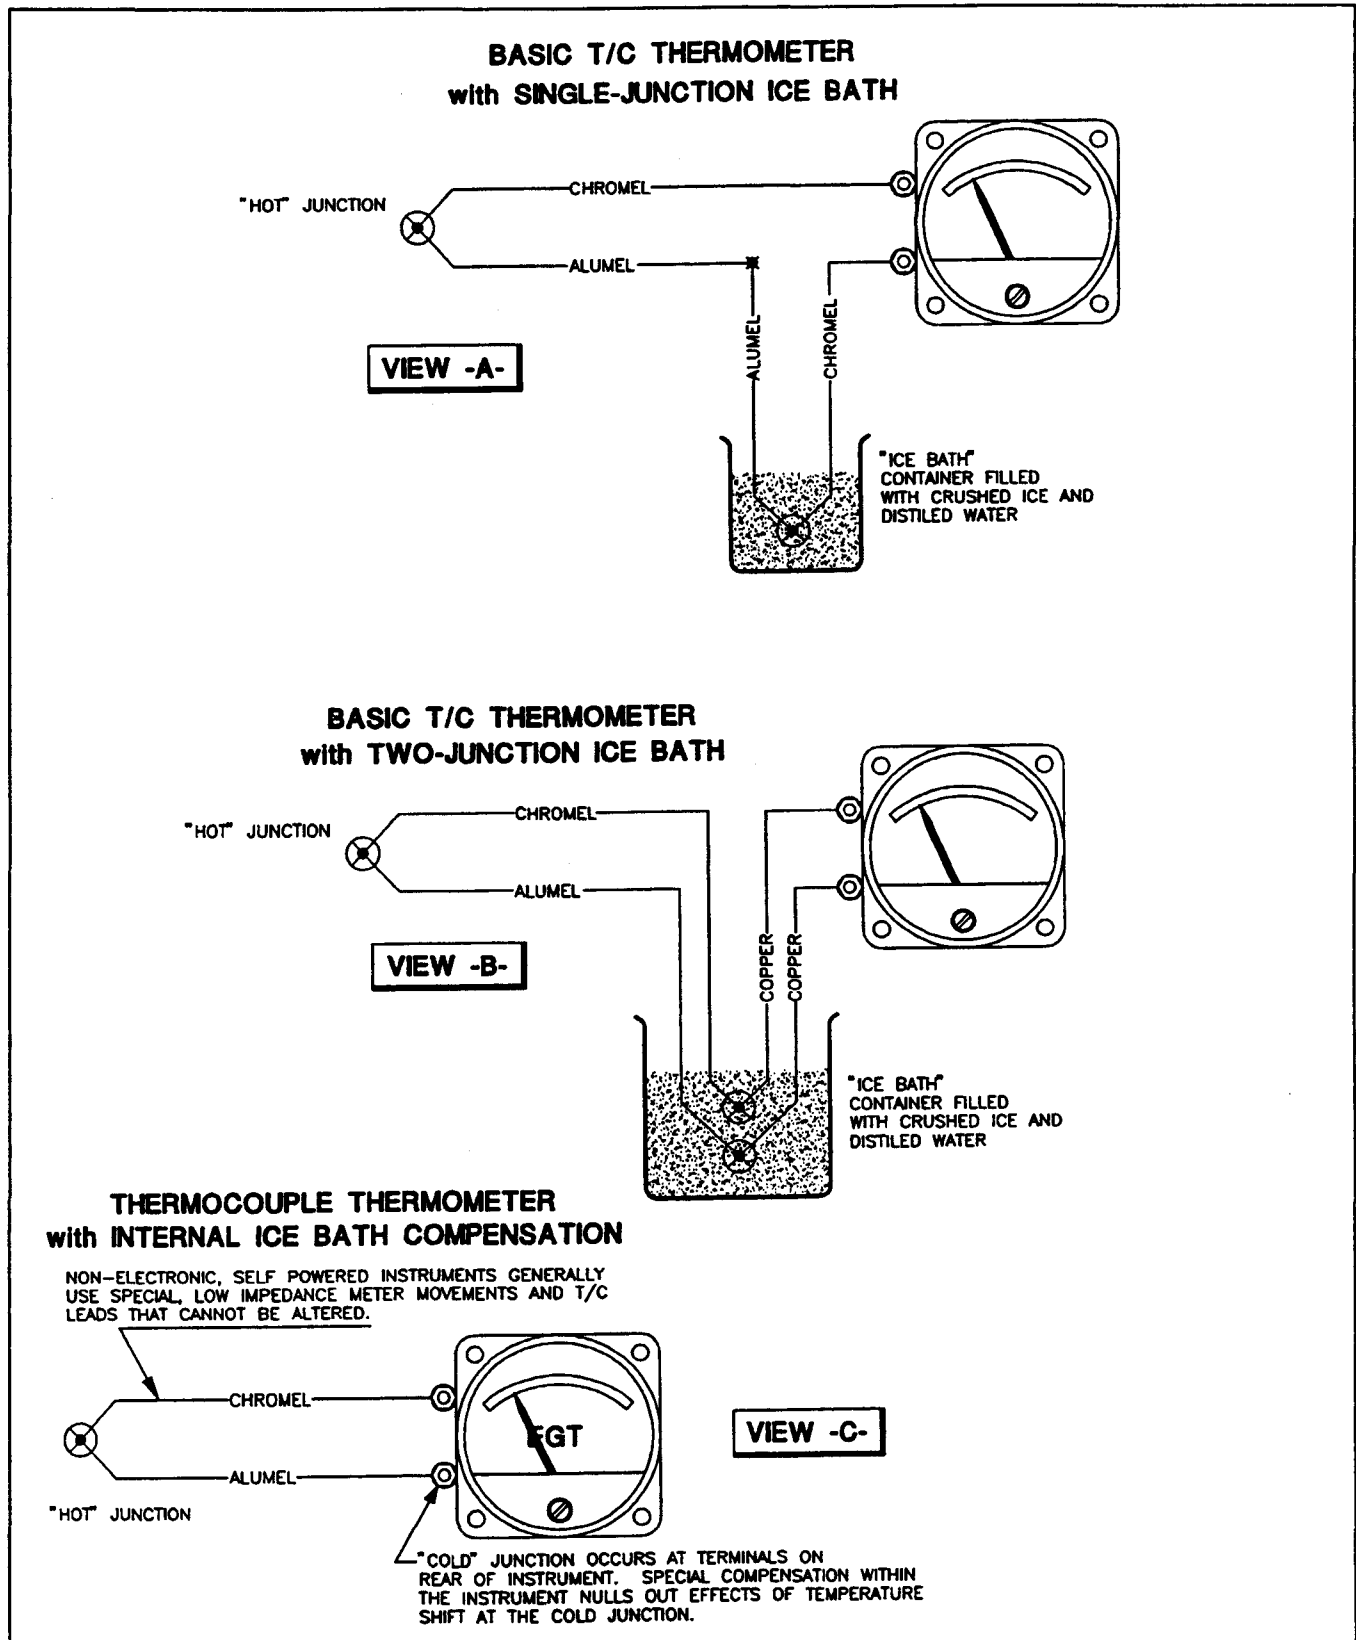
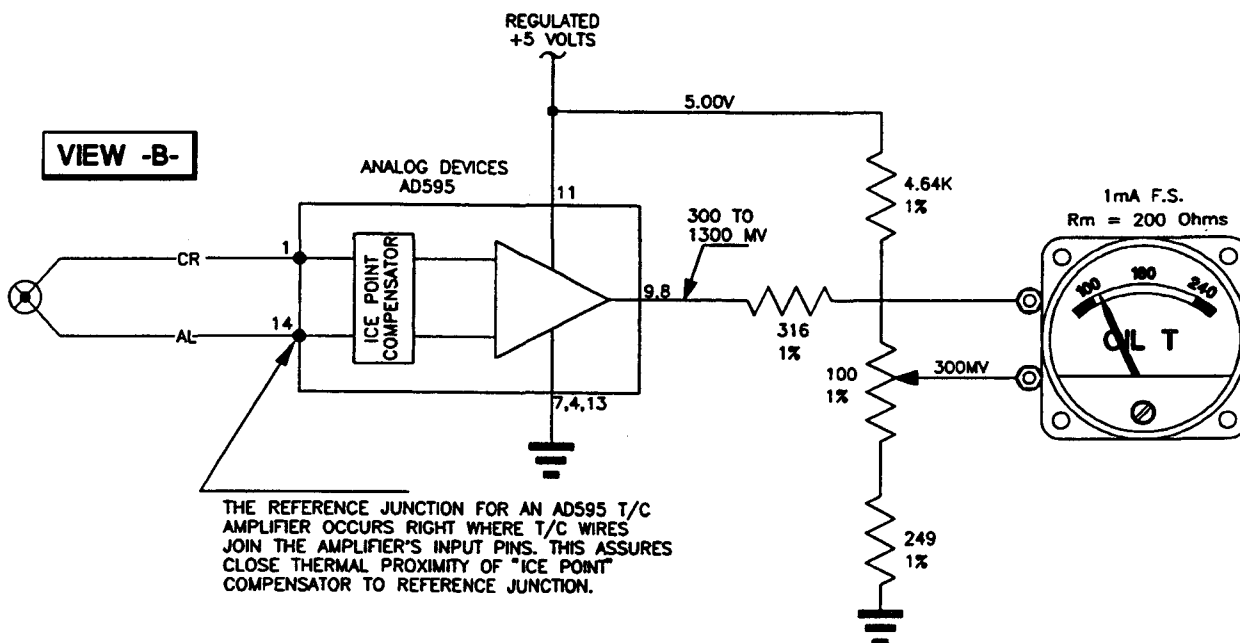
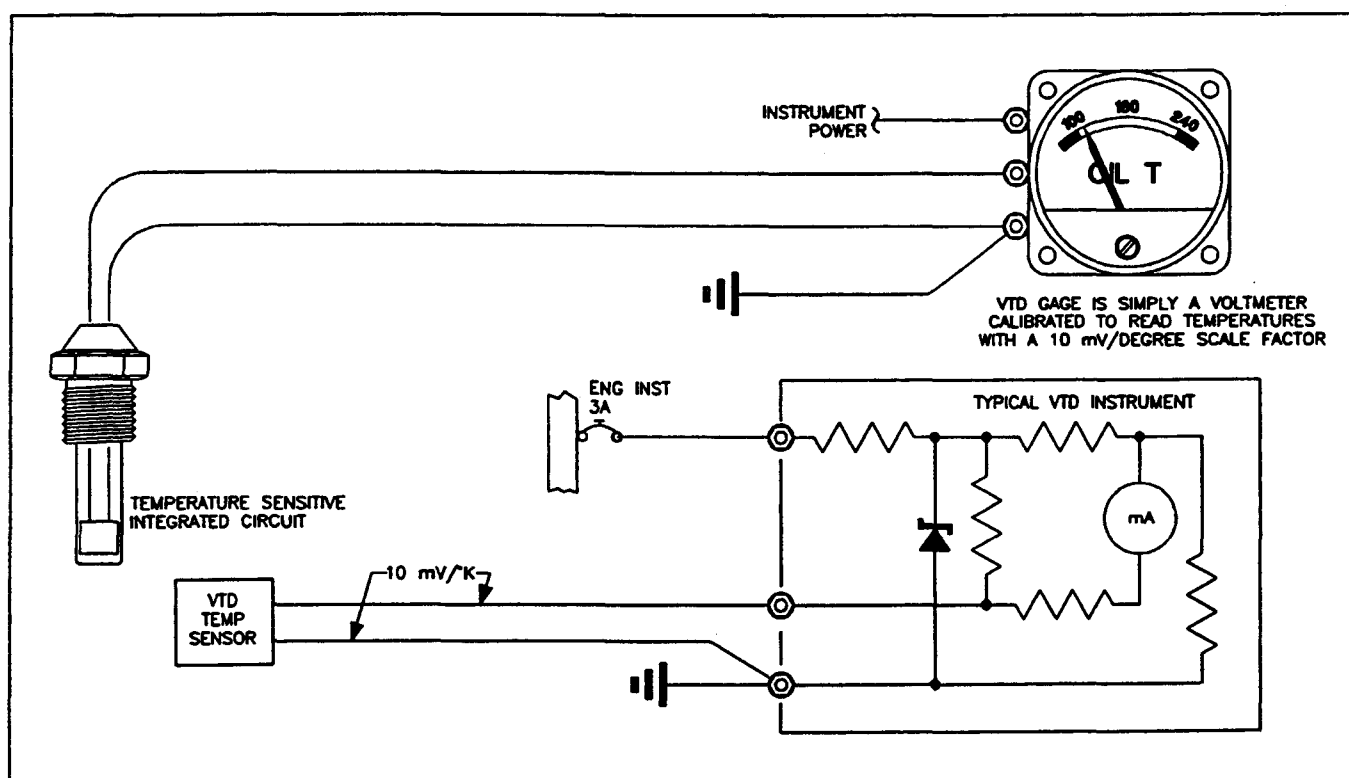

Figure 14-10. Generic T/C Thermometers and Various Reference-Junction Techniques.
Figure 14-12. Amplified Thermocouple Thermometers.
Figure 14-14. Solid State Temperature Sensor.
In Figure 14-10, View -A-, I show two chromel-alumel thermocouples hooked in series with their alumel wires brought together. This means that the "hot" junction generates a voltage opposite in polarity to the "cold" junction. If both couples were at the same temperature, the net voltage at the instrument is zero. Now, let's place the "cold" couple in a known temperature environment, say a bath of crushed ice and water. We know that while any ice exists, the bath is 0°C. Now the voltage measured between the two couples is proportional to temperature difference between the "hot" and "cold" junctions. Further, note that our voltmeter is now connected to two constantan wires. The two parasitic couples at the voltmeter terminals now have equal but opposite effects on the voltage of interest. In other words, irrespective of their voltage, they are opposing polarities and equal to each other - they cancel each other out. Now our instrument need be concerned only the calibrated difference voltage between hot and cold junctions. Further, the hot junction's temperature will be represented by the voltages described in Table 14-2.
While on the topic of high impedance instruments for thermocouples, I'll call your attention to Figure 14-12. In View -A- the hot-junction and reference-junction setup is similar to Figure 14-10, View -A- except: an electronic amplifier inserted between thermocouple wires and indicator. Some interesting things happen when you add an amplifier. (1) the indicator becomes a simple, much less expensive, voltmeter and (2) the current flowing in the thermocouple wires is for all practical purposes, zero. Length of thermocouple wire is no longer critical; insertion of a selector switch to manage many thermocouples is feasible. The last inconvenience to eliminate is the requirement for an ice bath . . . .
A company called Analog Devices builds integrated circuits for thermocouple signal conditioning. A sample circuit is shown in Figure 14-12, View -B-. The AD594 integrated circuit is designed to provide amplification, cold junction compensation and linearity compensation for type J thermocouple wire, the AD595 is used with type K wire. The device outputs a voltage of 10 millivolts per °C of thermocouple temperature. These circuits
For example: Let us suppose you want to display oil temperature over the range of 30 to 130 degrees C (86 to 266 degrees F). The output from the AD595 and type K wire will be 300 to 1300 millivolts over that range (10 millivolts per degree C). So, instead of designing a differential voltmeter for 10-16 volts as in Chapter 7, we're going to design for 300 to 1300 millivolts. The values shown in Figure 14-12 are appropriate for a meter having a full scale current of 1 milliamper and internal resistance of 200 ohms. Resistors for other meters can be calculated using techniques described in Chapter 7 *(OR you can simply use a digital panel meter with the decimal point set in the right place to display 10 mV/°C as temperature.)*
Several manufacturers build VTDs that look for all the world like a simple, zener diode voltage regulator. However, this "regulator" is very unstable - in fact, it drifts at a rate exactly equal to  $10 \text{ mV}/^\circ\text{K}$  or  $10 \text{ mV}/^\circ\text{R}$ . Hmmmm . . . we saw that 10 millivolt figure earlier. That's become a sort of industry standard for temperature measurement devices. Everyone builds parts calibrated for measuring C-size degrees, most also make F-size parts too. Figure 14-14 shows a basic thermometer using a calibrated VTD. The indicator is nothing more
than a voltmeter with scale factor of 10mV per degree times total degrees of span and an offset equal to 10mV per degree times the lower end of scale temperature reading. The architectures for expanded scale voltmeters described in Figure 14-12 and Chapter 7 are applicable.
VTDs are calibrated devices as supplied from the factory. They are quite accurate, typically plus or minus 1.0°C or better. Their scale factor of 10 mV/°C is the same as the thermocouple amplifier shown in Figure 14-12, but they are somewhat simpler to use as illustrated in Figure 14-14. Their disadvantage is that their operating temperature ranges do not span as far as thermocouples. They are currently unable to measure exhaust gas temperatures; exhaust gases will remain an exclusive domain of thermocouples. Further, few solid state sensors are rated for temperatures experienced on cylinder heads. However, they do work well at low temperatures (below 0°C); actually better than thermocouples. Therefore, VTDs are well suited for OAT measurement. Their large inherent scale factor of 10°C overpowers parasitic thermocouples which exist in the interconnect wiring so leadwires between instrument and solid state temperature sensors require no special treatment.